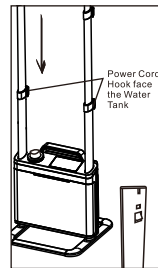
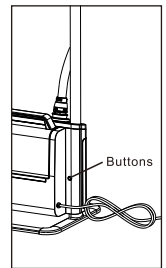

Figure 4
Figure 5
3. Insert Telescopic Bars (the power cord hooks face the water tank, see figure 4). When disassembling the Telescopic Bars, press the Buttons at both sides on the Main Body to unlock the poles before disassembling (see figure 5)